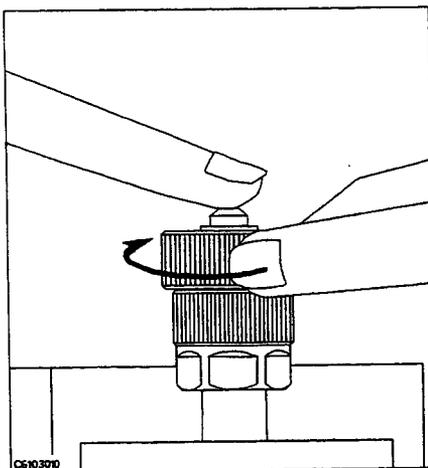

Figure 3-7.
8. Connect the $0\ \Omega$ termination on the APC-7[®] connector as shown in Figure 3-7.